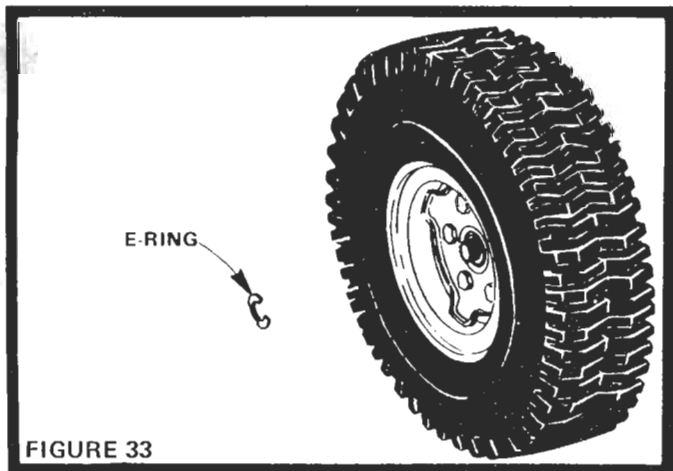

FIGURE 33
- e. Removing rear wheel for tire repair (Fig. 33).